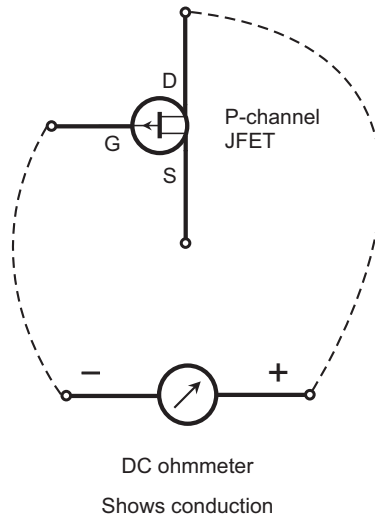

FIGURE 7-27 Electrons should flow from the gate to the drain.
4. Electrons should flow from the gate to the drain (Fig. 7-27).